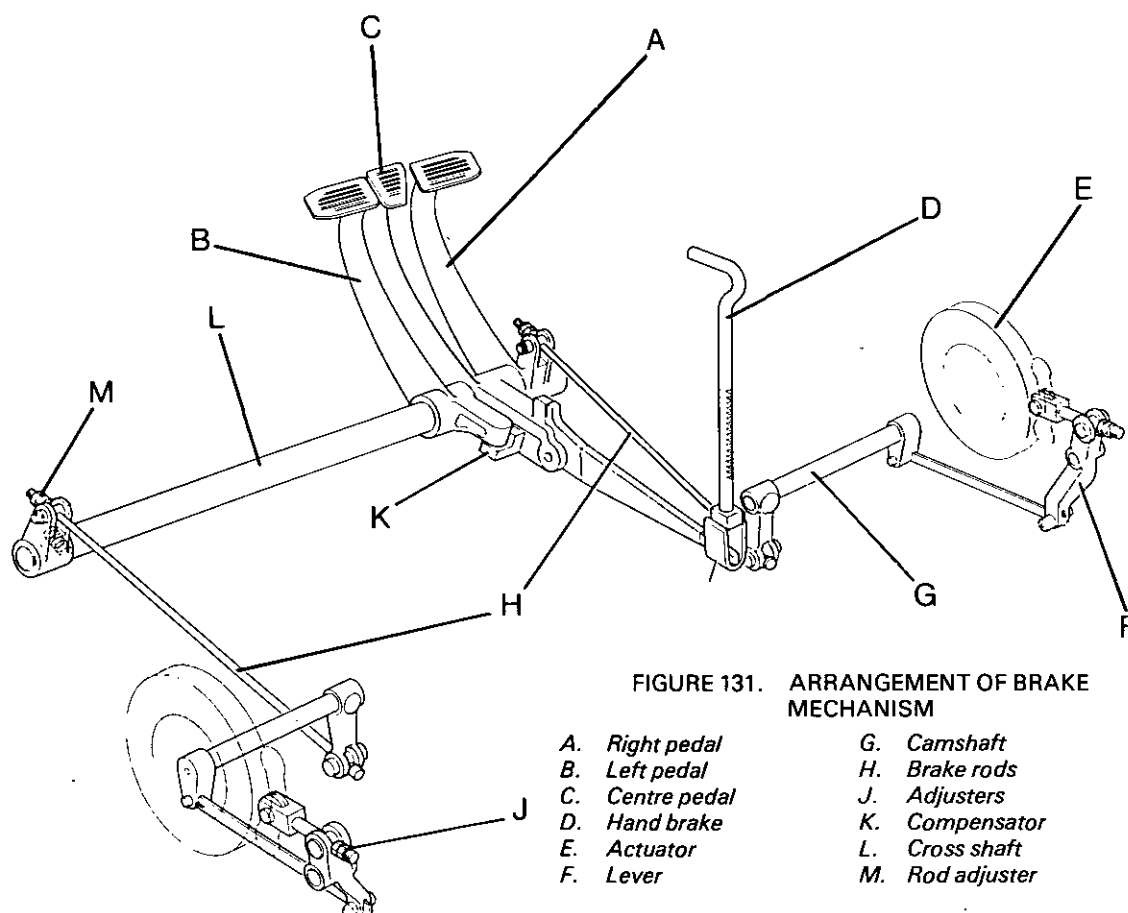

FIGURE 131. ARRANGEMENT OF BRAKE MECHANISM
A pedal is installed for each brake assembly so it can be operated separately for tight turns with the steering. A single pedal is installed between these two pedals for normal braking. See Figure 131.
- (a) the nuts M Figure 131 which adjust the pull rods, have been used to adjust the brakes,
11. Adjust the length of the pull rods H Figure 131 by turning nut M.